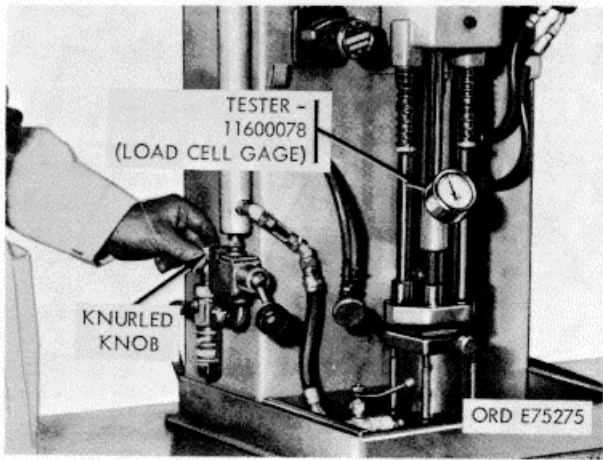

Figure 3-62. Air pressure adjustment.
(3) Turn on test stand, and adjust pressure to 150 psi.
(4) Check orifice plug inlet opening of injector adapter (23, fig. B-28)ras shown in figure 3-62, for leakage past ball valve.